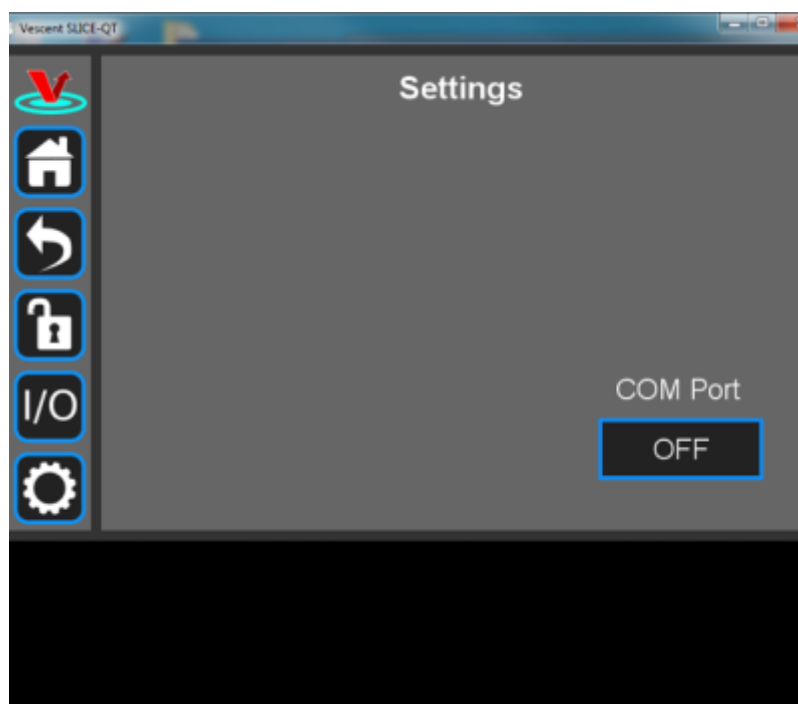

Fig. 43: Settings screen when viewed by GUI
6. On the SLICE-QTC GUI, click on the Settings icon to get to the window shown in figure 43.